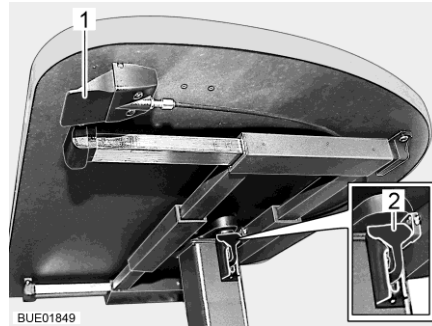

Fig. 62 Lift-off table with release button
- Pull or press down the catch lever (Fig. 62,2).
- Press the catch lever (Fig. 62,2) upwards.
- Press the release button (Fig. 62,1) and hold it down. The table top moves automatically upwards to the limit stop.
- Release the release button (Fig. 62,1). The table top remains in the desired position.
- Press the release button (Fig. 62,1) and hold it down.
- Release the release button (Fig. 62,1). The table top remains in the lowest position.